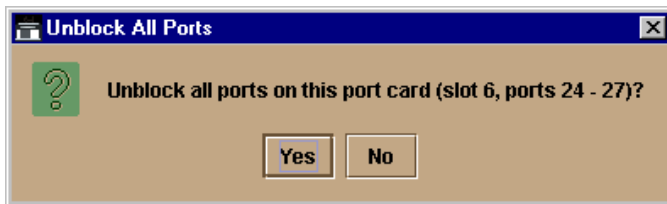

Figure 3-24: Unlock All Ports Dialog Box
5. Select Unblock All Ports. The Unblock All Ports dialog box (Figure 3-24) displays.